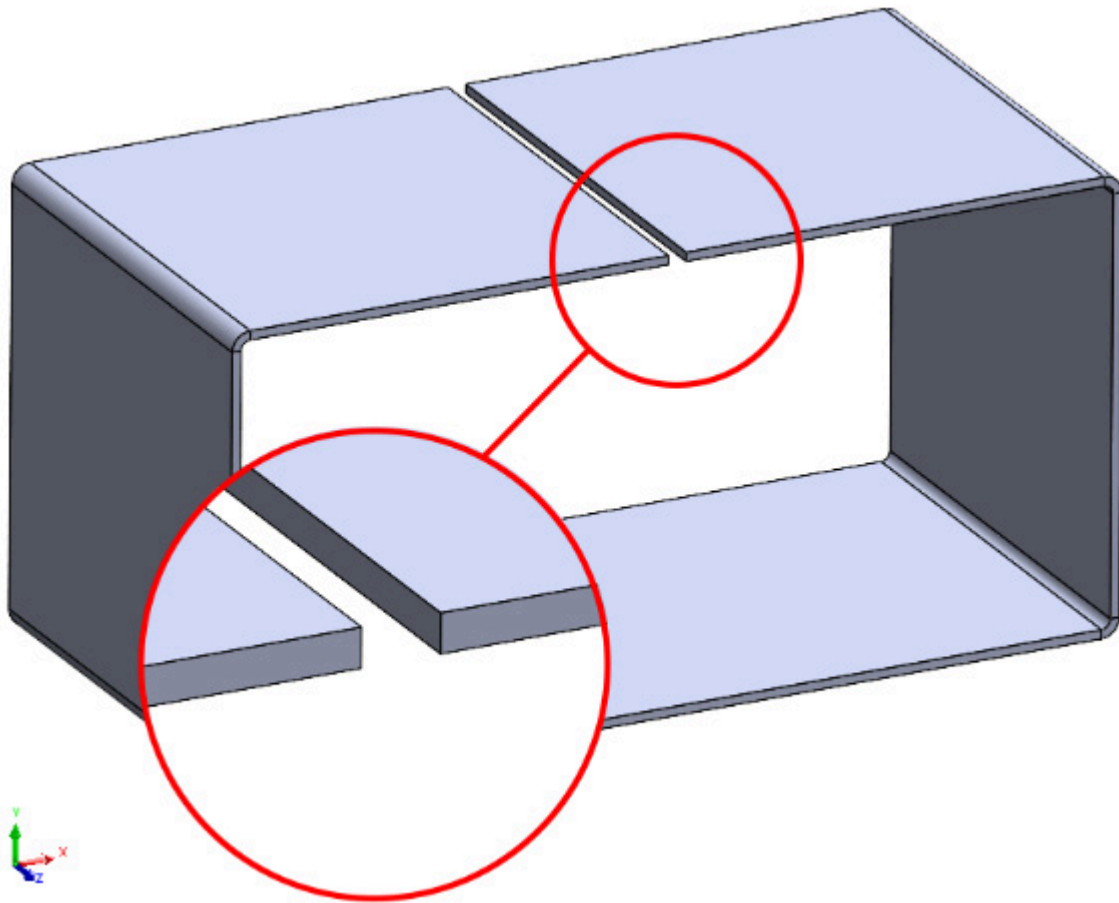

Figure 3.25: Thin sheets can be hard to join without Jogs
**Jog** features can be particularly useful for joining two thin sheets and yet still maintaining a flush outer surface. If two thin sheets butt up against each other and join directly, then it can be very hard to weld or otherwise join them together because we only have a tiny surface (that is, the thickness of the sheet) where they actually join (*Figure 3.25*).